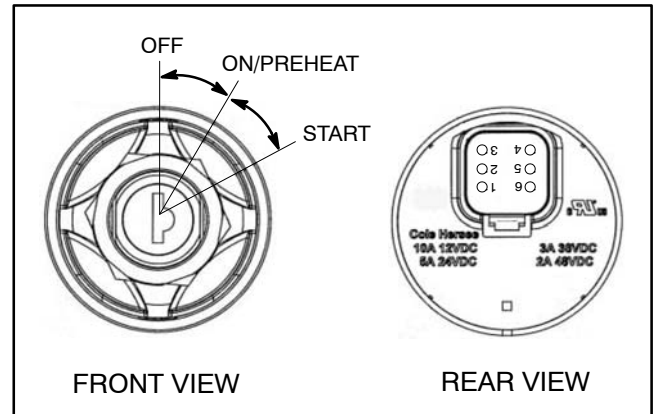

Figure 25
4. The ignition switch terminals are identified in Figure 25 and the circuitry of the switch is shown in the chart in Figure 26. With the use of a multimeter (ohms setting), the switch functions can be tested to determine whether continuity exists between the various terminals for each switch position. Verify continuity between switch terminals.